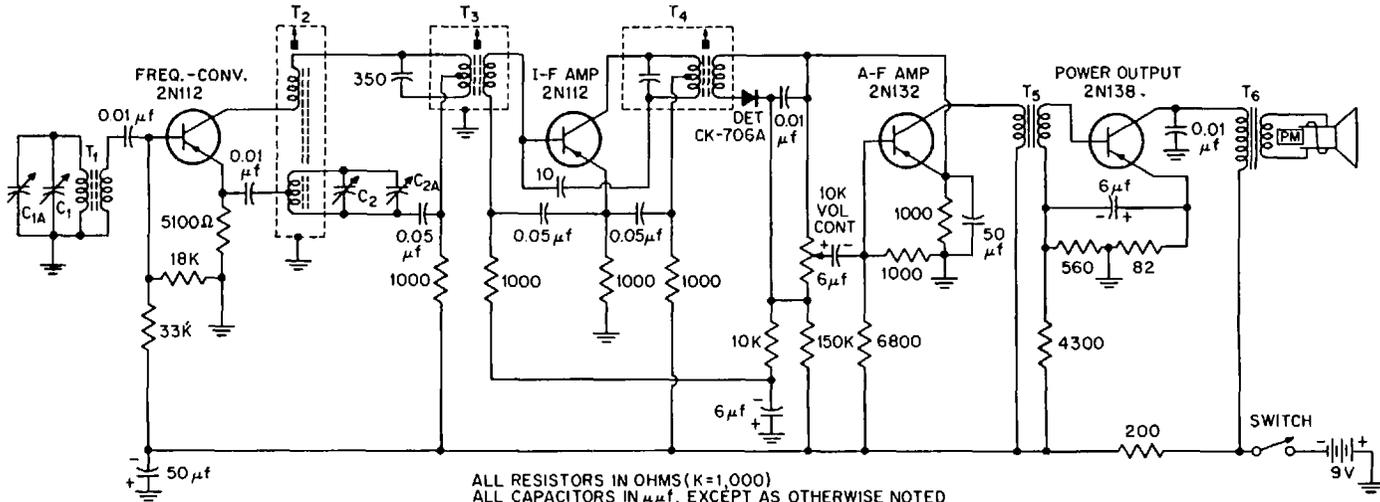

Fig. 29-4. Portable Transistor Receiver.
**Portable Transistor Receiver.** The newest, and smallest, member of the family of radio receivers is the portable transistor receiver. This self-contained portable is small enough to fit into the pocket. A typical circuit is that of the Raytheon Model T-100-5 receiver illustrated in Figure 29-4. Note that the transistors are shown here as a converter, as well as i-f, a-f, and power output amplifiers.